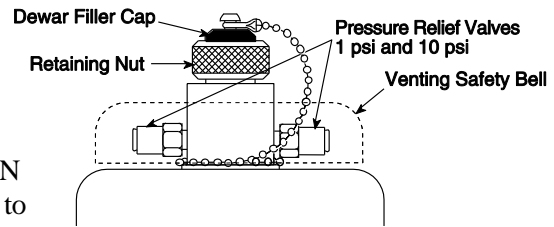

Figure 14. Dewar Ports and Valves
1. Loosen the retaining nut (Figure 14) a few turns, then remove the LN Dewar port cap by pulling it straight out.
The pressure relief valves (Figure 14) underneath the protective covering will occasionally emit a plume of N2 gas and mist. *Continuous* hissing indicates that the vacuum in the Dewar jacket is probably inadequate. In this case, *first remove all LN from the Dewar* and allow the Dewar to warm up to room temperature. Then contact Princeton Instruments Customer Support for further instructions.